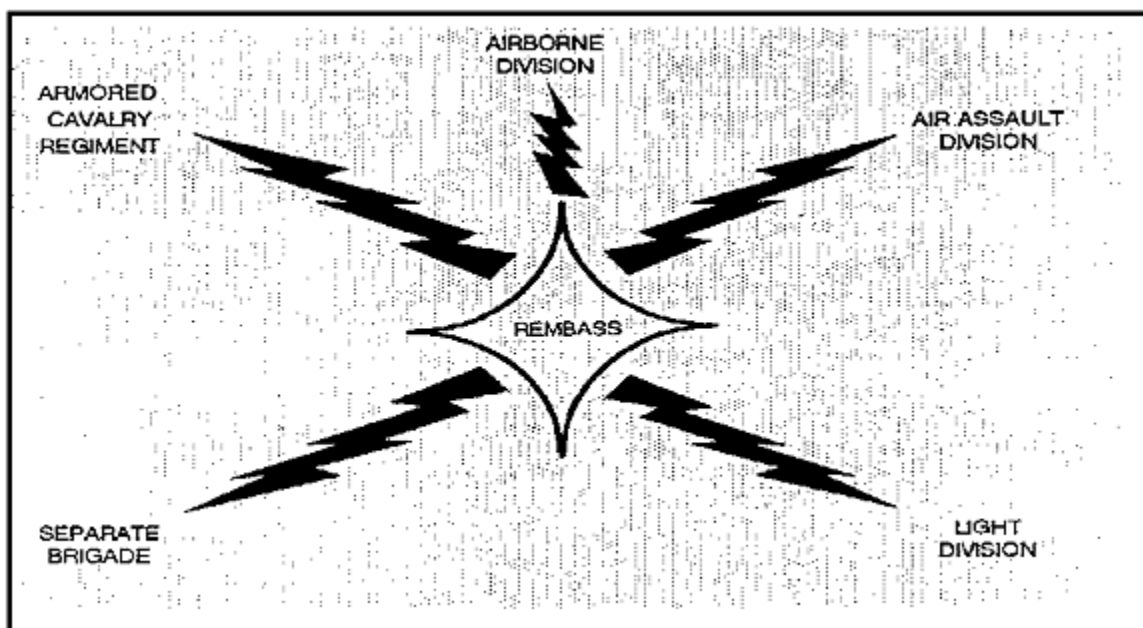

Figure 1-1. Units that use REMBASS.
The REMBASS system is organic to airborne, air assault and light divisions, separate brigades and ACRs (see Figure 1-1). Personnel from assigned military intelligence (MI) units provide maintenance support to the system. REMBASS supports offensive, defensive, rear areas, special operations such as military operations on urban terrain (MOUT), rear security, and border surveillance.